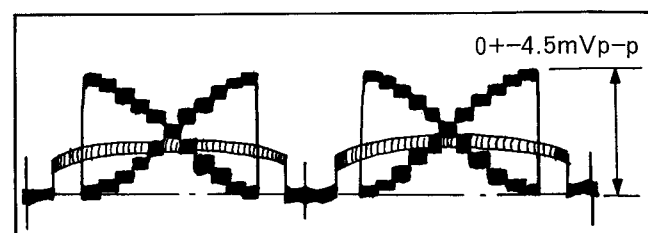

Fig. C16
- (1) Aim the camera at gray scale chart.
- (2) Connect the oscilloscope to TS5 (CHA) and TS2 (CHB).
- (3) Set the CHB for "INVERT" mode.
- (4) Set the oscilloscope for "ADD" mode.
- (5) Adjust the 1H delay level control (VR320) so that waveform becomes 0 $\pm$ 4.5mVp-p as shown in Fig. C16.
- (6) Reconnect the CHB probe to TS8, (CHA is still connecting to TS5, CHB : INVERT mode. oscilloscope : ADD mode.)
- (7) Adjust the 2H delay level control (VR318) so that waveform becomes 0 $\pm$ 4.5mVp-p as shown in Fig. C16.